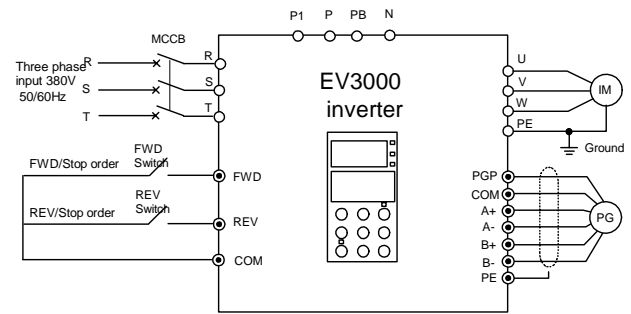

Figure 4-17 Basic wiring diagram 2
- 1) According to the cable connection of Figure 4-17, check to confirm the correct cable connection, switch on MCCB to supply power to the inverter.